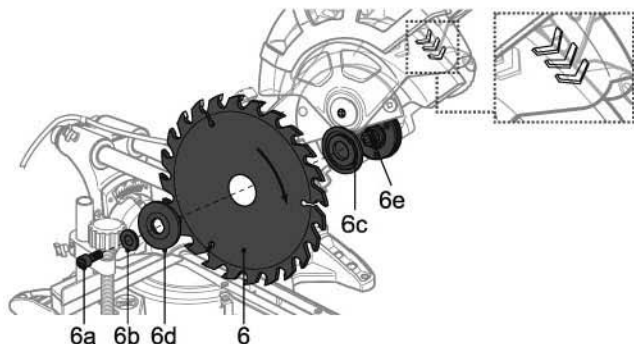

Fig. 59
1. Push the handle (1) downwards and release the locking bolt (23) from the locking position (Fig. 59, 60).